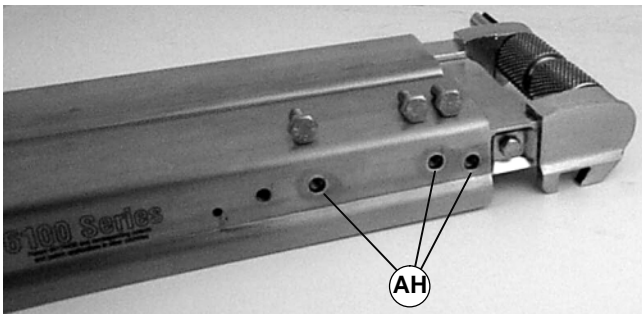

Figure 30
3. Remove three (3) screws (AH of Figure 30) on the side opposite the drive shaft.